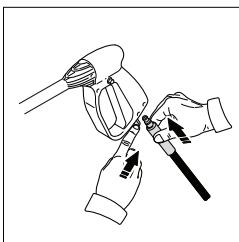

Fig. 3
- Connect the other end of the high pressure hose to the spray gun by inserting the silver metal tip of the high pressure hose into the fitting under the trigger guard. It will lock into the spray gun with a "click" (Fig. 3). Confirm the hose is locked into the spray gun by pulling slightly on the hose. The hose is now securely attached to the spray gun.